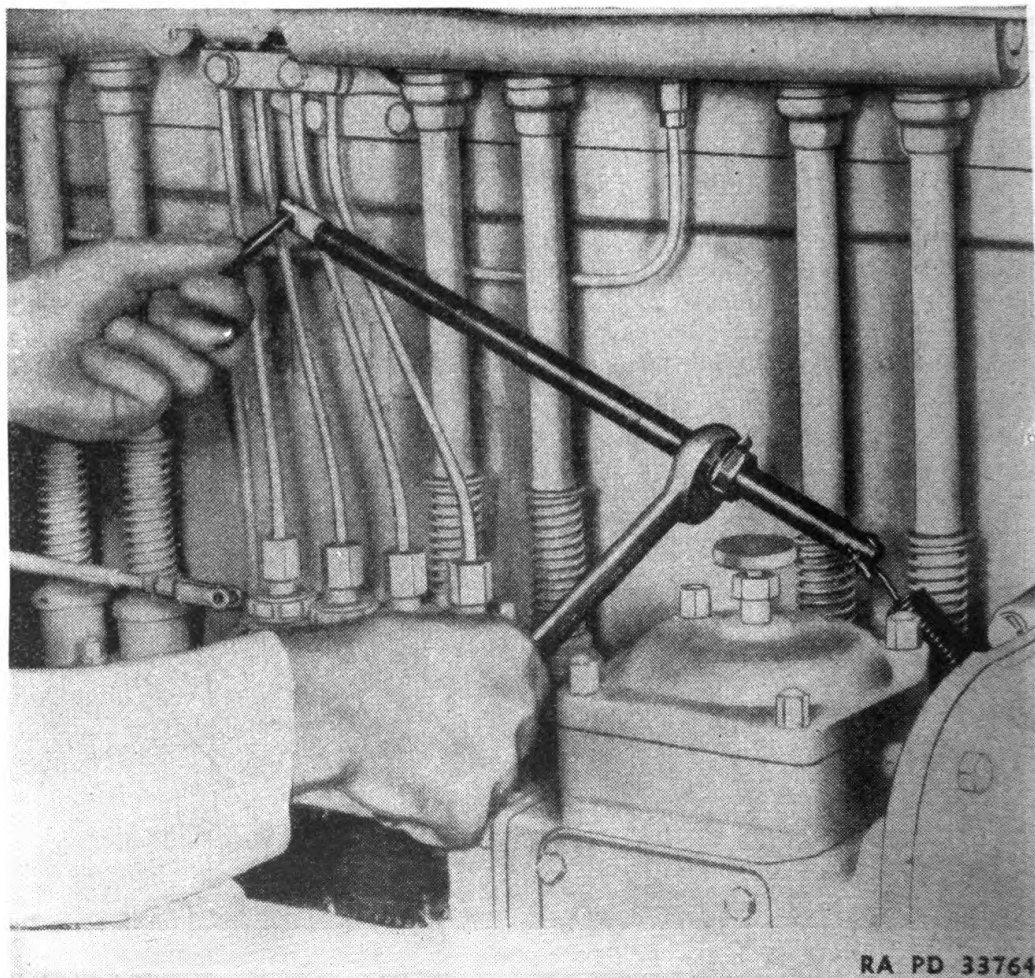
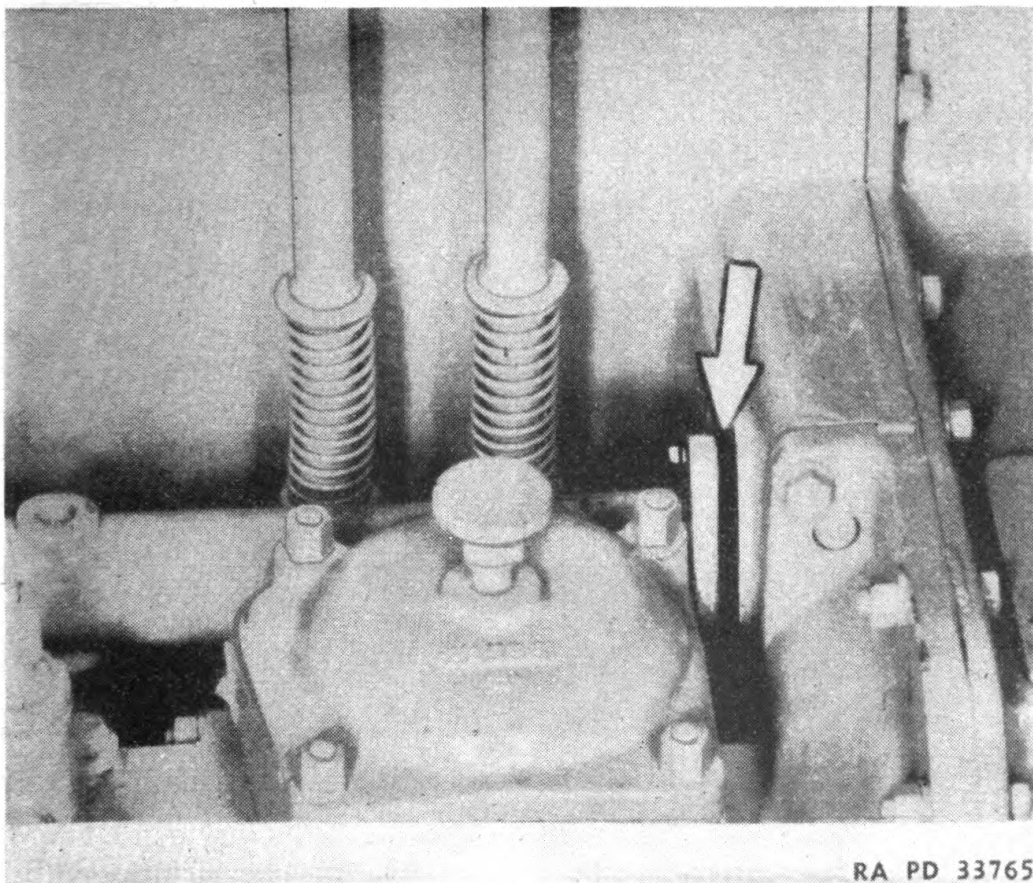

FIGURE 66.—Loosening the governor adjusting nut.
FIGURE 67.—Loosening governor spring housing.
c. Similarly, by moving the hand throttle forward, connecting rod (2) and throttle control rod (4) are moved in the direction opposite to the arrow reducing the tension on the governor spring. The low idle speed of the engine is obtained when low idle adjusting nut (6) has moved forward against stop (7).
b. When the high idle speed is below normal, loosen governor spring housing (fig. 66) from the engine block, but do not completely remove the capscrews holding it (fig. 67). Simultaneously advance throttle and loosen screws until the desired speed is obtained. Then, measure the resulting gap between the governor spring housing and engine block. This distance will be the amount adjusting nuts must be turned on the adjusting rod to obtain proper adjustment.